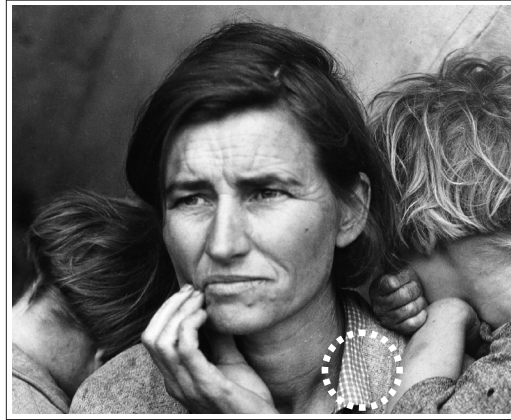

Fig. 2.1. Halftone of original photo
- If a detail of an image is to be used, indicate the area of interest on a photocopy of the print (see figure 2.1 on page 6).